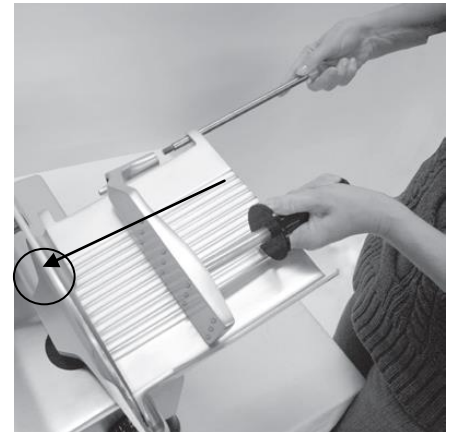

Figure 8-4
6. Reattach the end weight slide rod by threading it back through the food chute and end weight; then screw it back into the bottom of the food chute (Fig. 8-4).